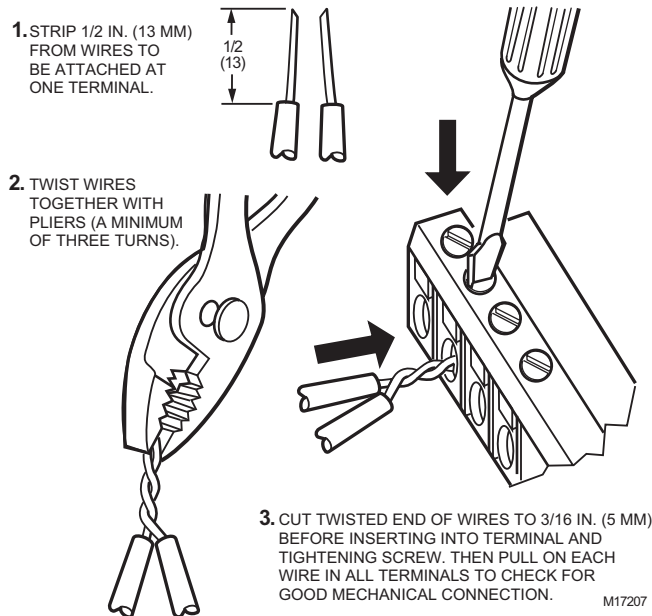

Fig. 8. Attaching two or more wires at terminal blocks.
NOTE: When attaching two or more wires to the same terminal, other than 14 AWG (2.0 sq mm), be sure to twist them together. Deviation from this rule can result in improper electrical contact. See Fig. 8.
3. If two or more wires are being inserted into one terminal location, twist the wires together a minimum of three turns before inserting them, See Fig. 8.